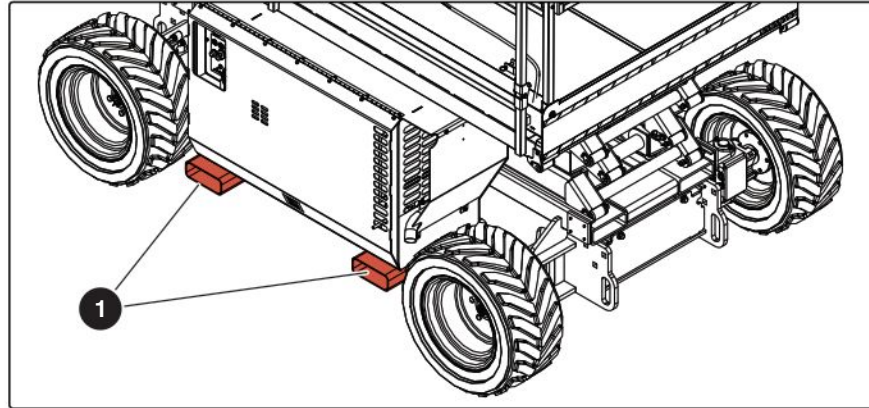

Figure 03 Forklift lift locations
- Lift the MEWP with the forklift forks in the forklift lift locations **1**. Refer to Figure 03.